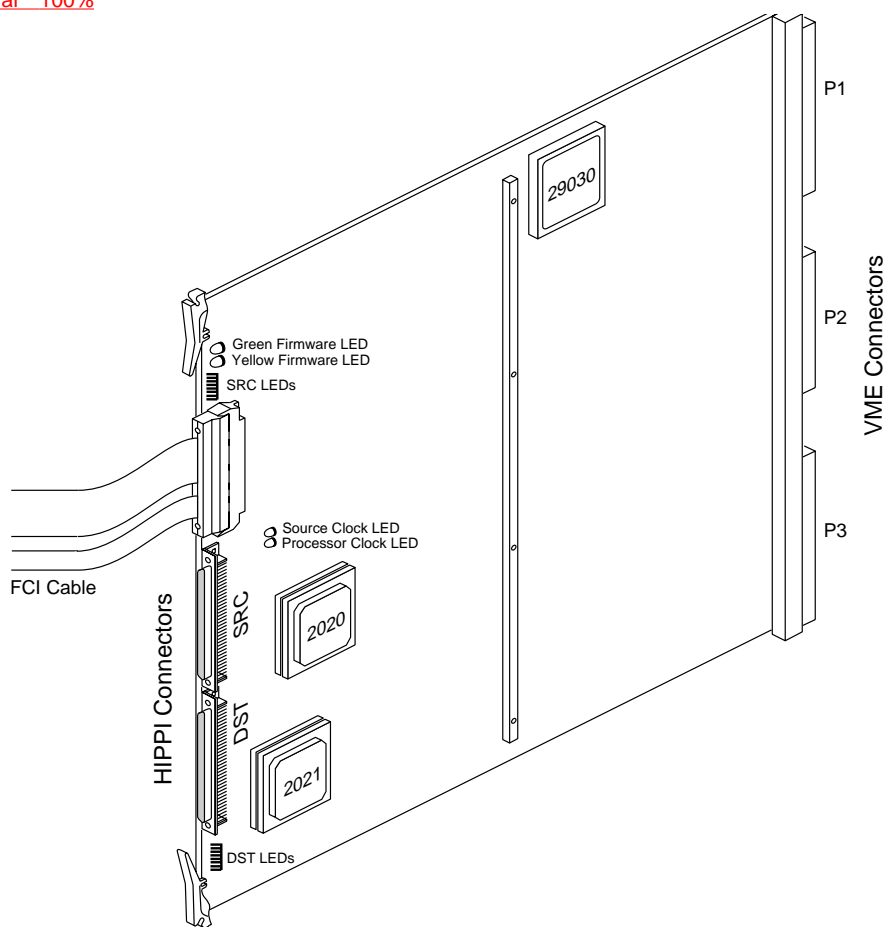

Figure 2-5 IRIS HIPPI Board
1. Hold the HIPPI board vertically so that the HIPPI and FCI connectors face you, the VMEBus connectors face away from you, and the side of the board with the most components faces to your right, as shown in Figure 2-5.